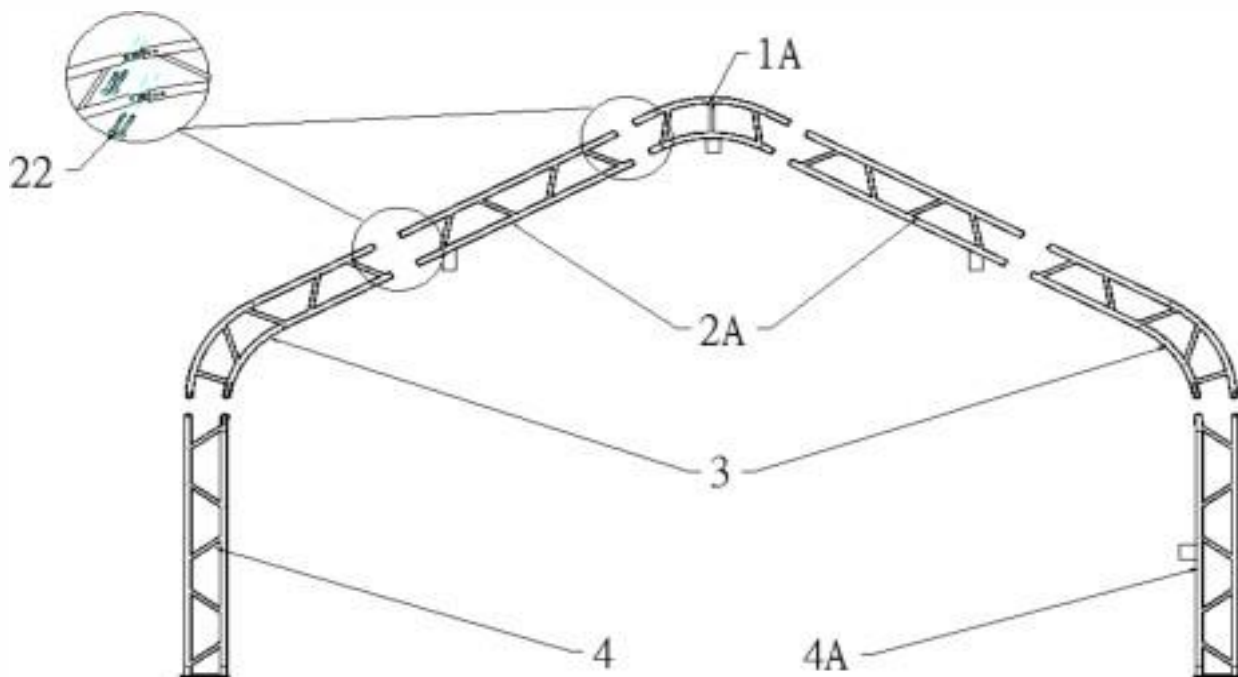
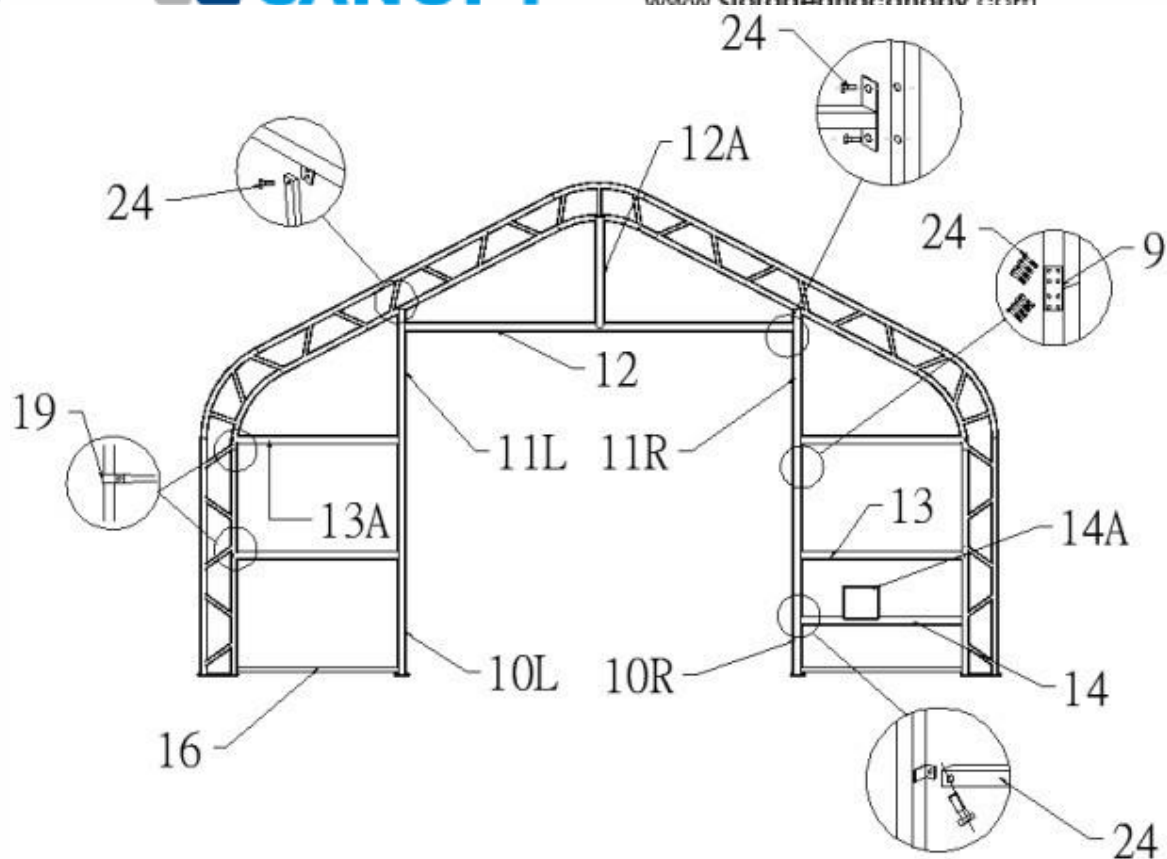

Figure 4 Front door frame
Figure 6: Front door
- . Figure 4 & 5 shows to install front and back door frame
1. Figure 6 shows to assembly the door frame according to Figure 4.